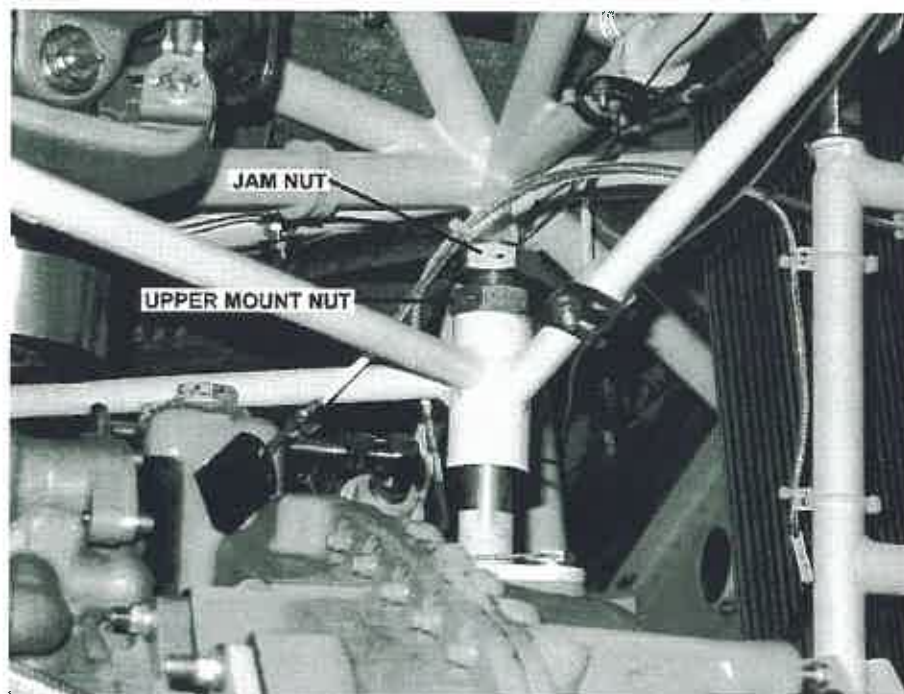

Figure 9 - Engine Upper Mount
4. When adjusting the engine position, loosen the nut and jam nut on the top engine mount enough to allow the engine to drop approximately .060 inches before loosening the side mounts (See Figure 9).
6. When the shimming is correct, torque the side mount bolt assemblies. Turn the top engine mount nut until it contacts the top pylon mount and then tighten one more flat. Tighten the jam nut against the mount nut and lock wire to the nuts to the engine mount (See Figure 9).